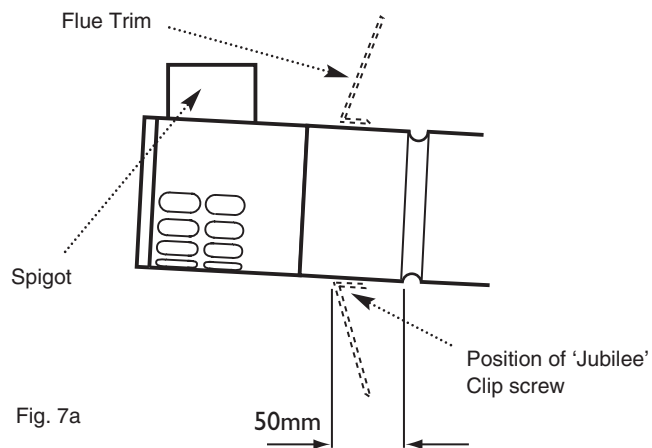

Fig. 7a
5. If required, the flexible flue trim should be fitted prior to this as it cannot be fitted after. Use the large 'Jubilee' clip to secure the trim to the flue (See Fig. 7a, trim shown dotted), with the screw part of the clip at the bottom.